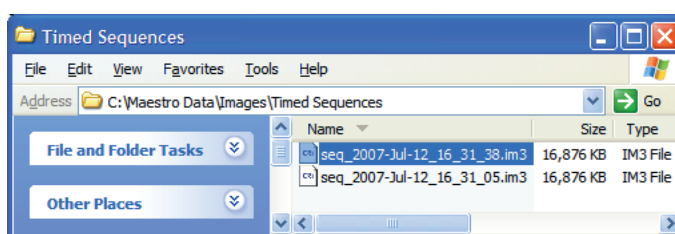

Figure 43. Cubes acquired during timed acquisition
8. When the acquisition sequence is complete, you can locate the cubes at the destination directory and open them in Maestro 2. As seen in Figure 43, the cube filenames begin with the base name you specified and include the date and time of acquisition.